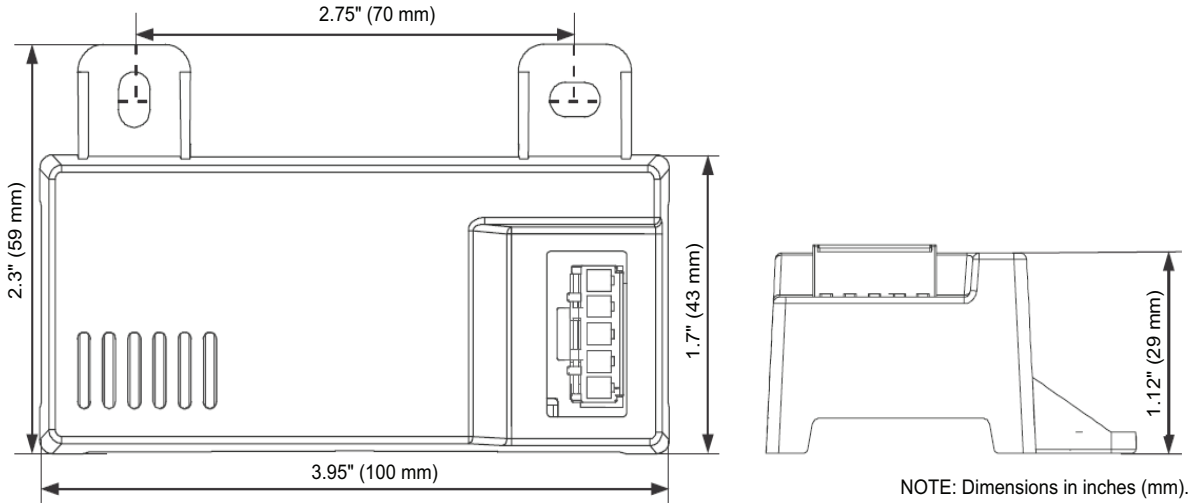
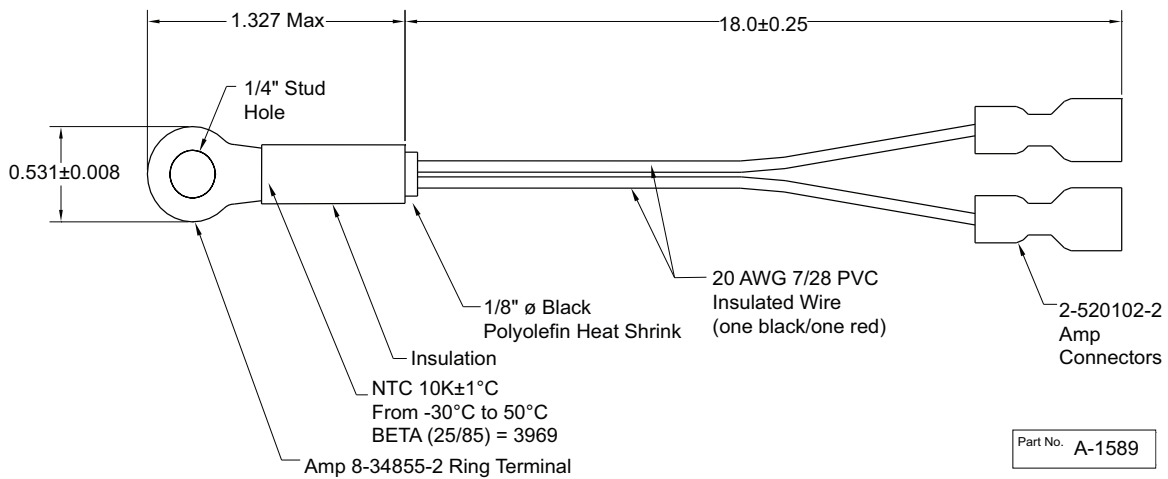
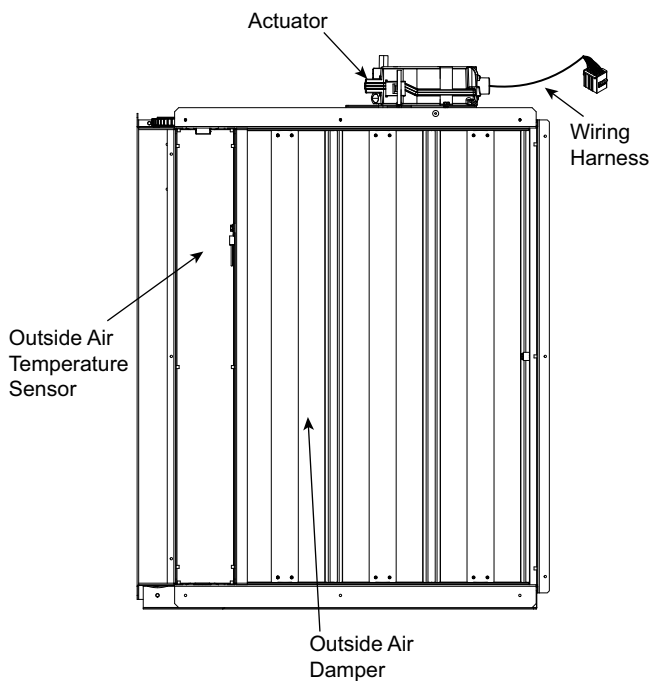

Fig. 66 – HH57LW001 Dimensional, Connection and Switching Information
Fig. 67 – HH79NZ039 Dry Bulb and Mixed Air Sensor Wiring
Fig. 68 – EconomizerONE Component Locations (CRECOMZR108A00 Shown)
When using the HH57LW001 enthalpy sensor (see Fig. 66) for outside air changeover, the existing HH79NZ039 dry bulb sensor (see Fig. 67) must be removed. The enthalpy sensor will be mounted in the same location as the dry bulb sensor (see Fig. 68). When the enthalpy sensor's OA (Outside Air) temperature, enthalpy, and dew point are below their respective setpoints, the outside air can be used for free cooling. When any of these are above the setpoint, free cooling will not be available. Enthalpy setpoints are configurable and create an enthalpy boundary according to the user's input. For additional details, see Fig. 69-70 and Table 29.
The optional enthalpy control sensor (P/N: HH57LW001) communicates with the POL224 economizer controller using the 5-wire harness, 48TC005213. The HH57LW001 sensor can be used as a single outside air enthalpy, a differential return enthalpy, or a differential return temperature sensor. Refer to the base unit control wiring diagrams found earlier in this book to wire the HH57LW001 enthalpy sensor for each option. Use Fig. 66 and Table 31 on page 52 to locate the wiring terminals for each enthalpy control sensor.
Economizers are shipped standard with an HH79NZ039 outside air dry bulb sensor (see Fig. 67). System default setting (high temp limit) is 63°F (17°C) and has a range of 48°F to 80°F (9°C to 27°C). Sensor is factory installed on economizer.
If installing the optional HH57LW001 enthalpy sensor, the HH79NZ039 dry bulb outside air sensor must first be removed. Wire sensor to harness 48TC005213 and the (5) wires from the harness to the EconomizerONE harness in the return air chamber. Harness 48TC005213 has a 5-pin plug that connects directly to the HH57LW001 enthalpy sensor. Refer to the base unit control wiring diagrams earlier in this book for wiring connections. Refer to Fig. 66 and Table 31.